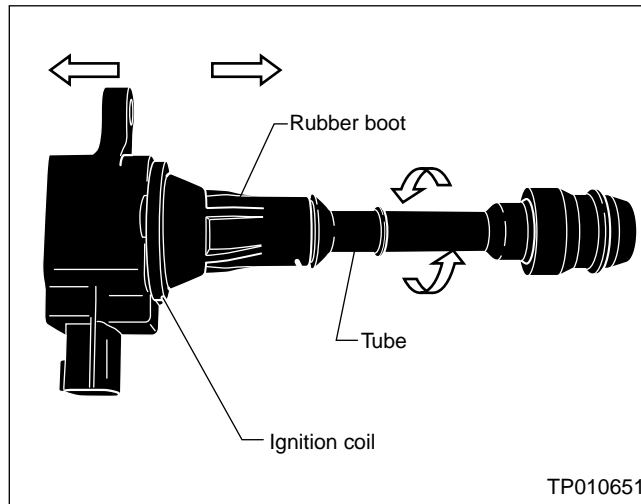

Figure 1
- A. Pull the rubber boot away from the ignition coil. Then, twist and pull the ignition coil tube from the ignition coil to separate them (see Figure 1).